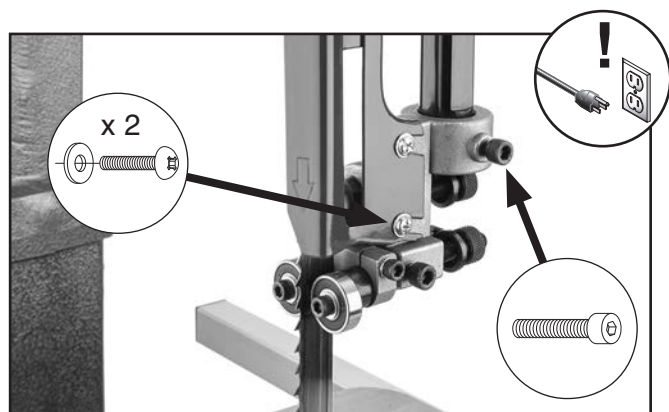

Figure 2. Existing upper blade guide assembly and fasteners.
3. Remove and set aside (2) Phillips head screws and flat washers that secure upper guide assembly to blade guard (see **Figure 2**).
4. While holding upper blade guide assembly with one hand, loosen (1) cap screw that secures assembly to guide post, then remove assembly (see **Figure 2**). Set aside cap screw.